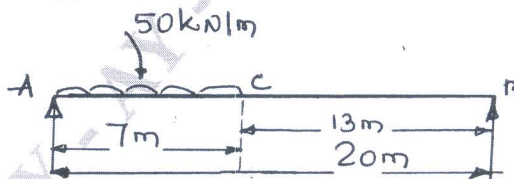

Fig.Q2(b)
b. A uniformly distributed load of 50 kN/m and of length 7m is rolling over a simply supported girder of span 20 m as shown in Fig.Q2(b). Determine: